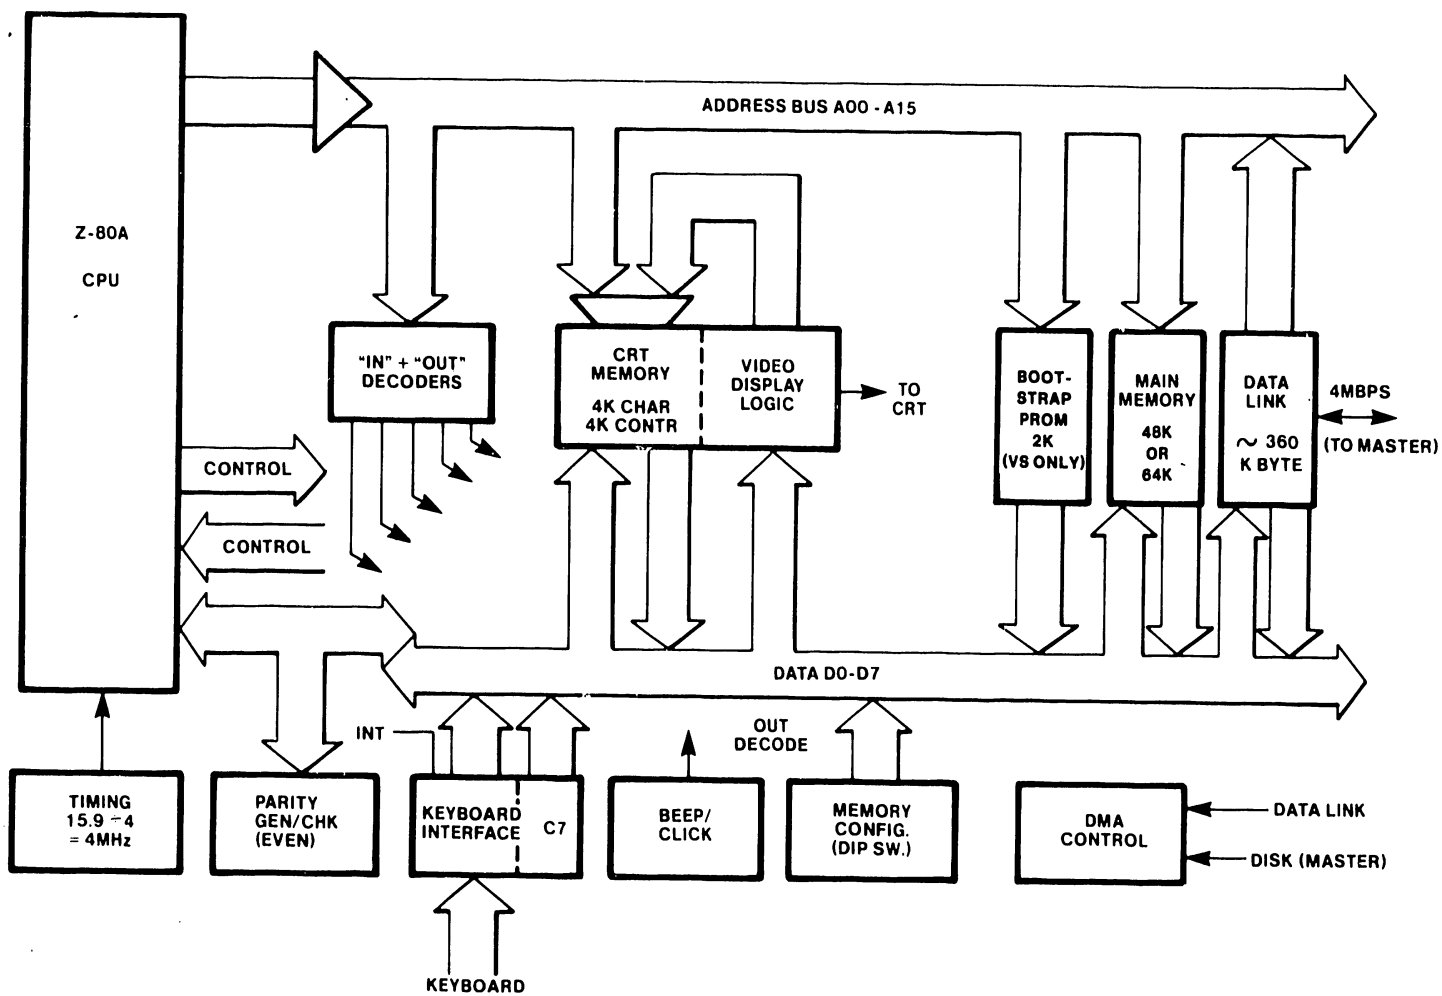

Figure 2-1 Workstation Functions Block Diagram
2.2.3 BASIC WORKSTATION FUNCTIONS (Refer to Figure 2-1)